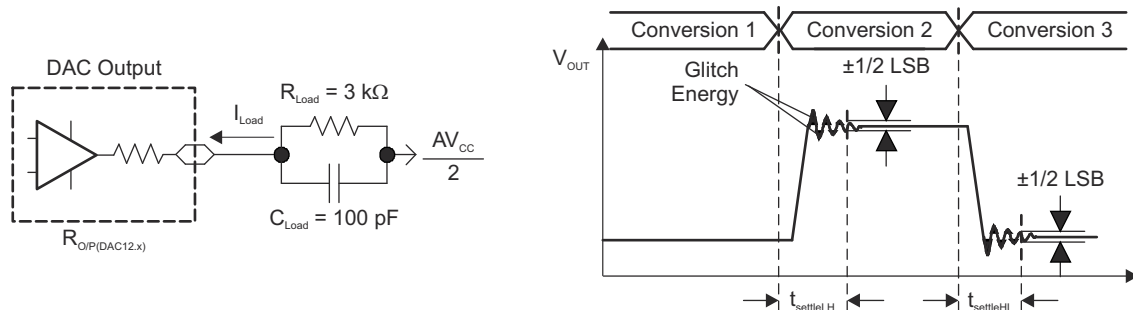
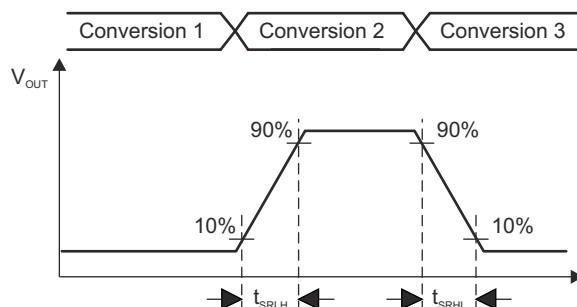

Figure 8-19. Settling Time and Glitch Energy Testing
Figure 8-20. Slew Rate Testing
V_{REF} = V_{CC}, DAC12IR = 1 (see Figure 8-19 and Figure 8-20), over recommended ranges of supply voltage and operating free-air temperature (unless otherwise noted)
- (1) R_{Load} and C_{Load} connected to AV_{SS} (not AV_{CC}/2) in Figure 8-19.
- (2) Slew rate applies to output voltage steps ≥ 200 mV.